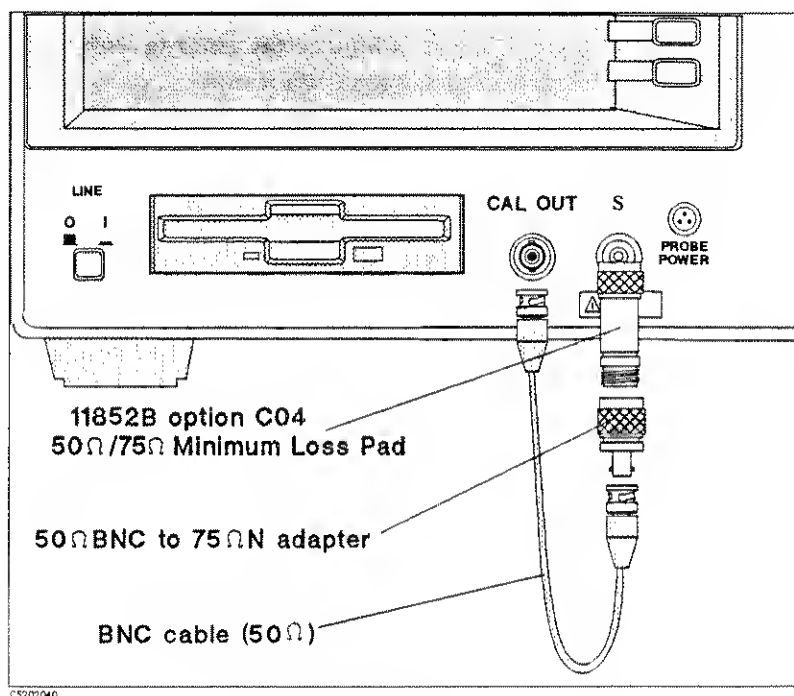

Figure 2-16.
4. Attach the 75 Ω N(m) to 50 Ω BNC(f) adapter to the HP 11852B option C04 50 Ω (m)/75 Ω (f) minimum loss pad that is connected to the S input. (See Figure 2-16.)